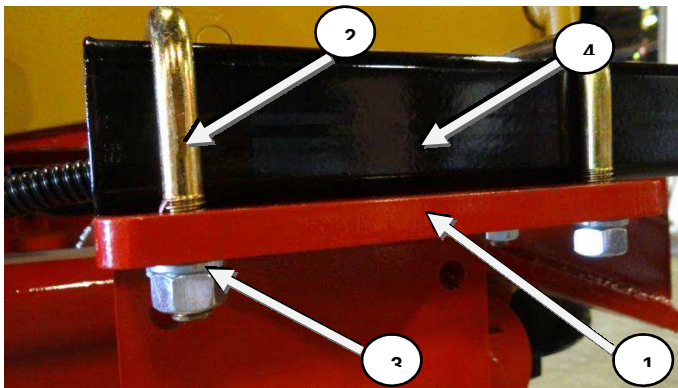

Figure 63
Light bracket tube (Item 4, Figure 63) should be sitting flat on mounting bracket (item 1) on main frame, two 1/2"- 1 3 x 2 -1/2" U-bolts, two 1/2" lock washers and two 1/2" nuts.